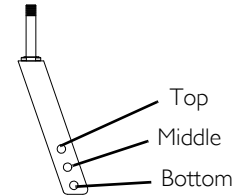
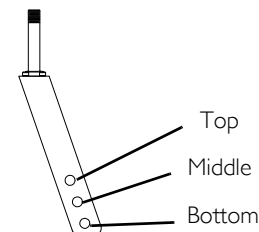

FIGURE 16 Changing Seat-to-Floor Height - Non-Recliner Frame Style
FIGURE 17 Changing Seat-to-Floor Height - Recliner Frame Style
For this procedure, refer to FIGURE 16 on page 80 and FIGURE 17 on page 81.
- A. Adult/Hemi Frame Style - FIGURE 16 on page 80.
- B. Recliner Frame Style - FIGURE 17 on page 81.